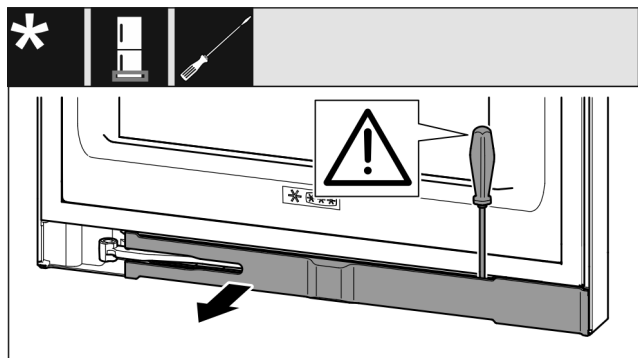

Fig. 14
- Unlatch the panel with a slotted screwdriver and swivel it to one side *Fig. 14 (1)*.